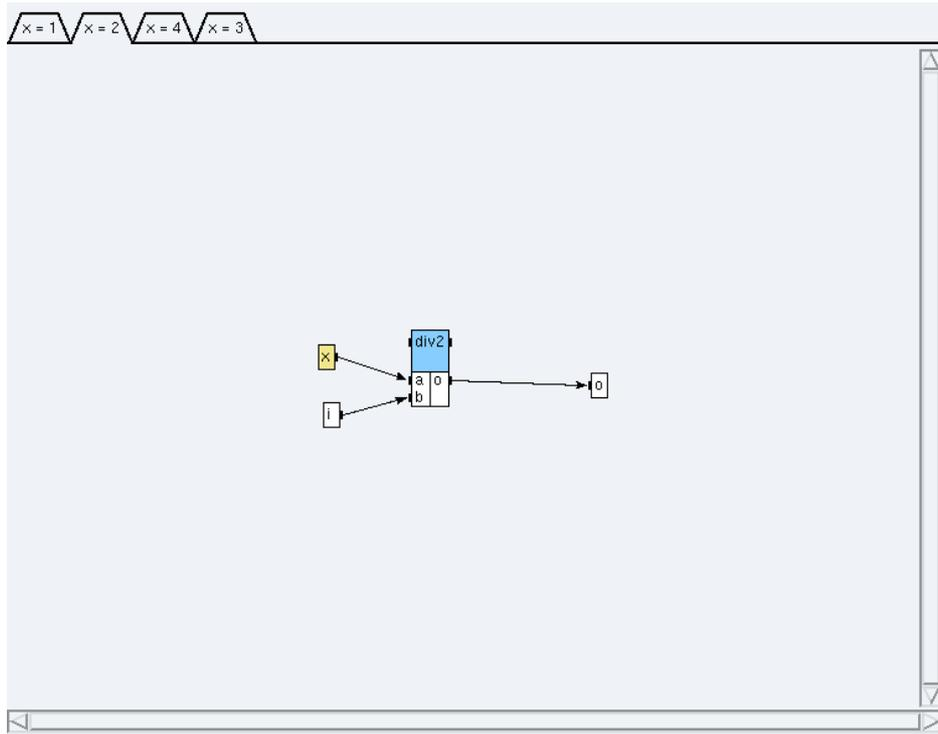

Figure 5.3: Condition x=2
- * click on the condition **x=2** (*cf.* figure 5.3) and create a reference `div2<1>` to the definition `int/Arit_div`,